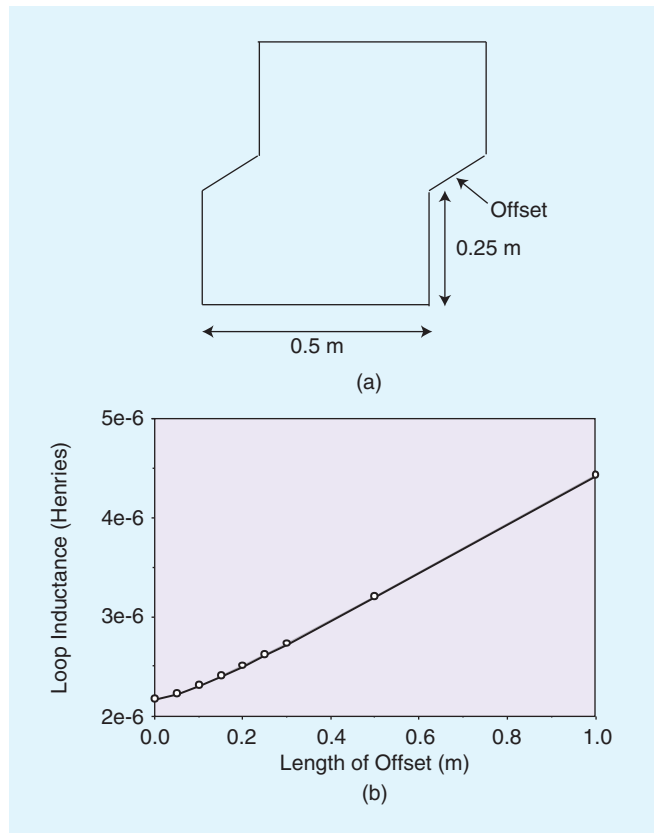

Fig. 6. The inductance of the offset loop as a function of the offset length obtained using TWTD. (a) An offset loop.
The last example shown here is for a square loop that is initially 0.5-m on a side and wire radii of 10^{-3} -m. Its inductance is determined from TWTD as the upper half of the loop is systematically offset from the lower half while remaining joined to it by two orthogonal wires. The result for this experiment is shown in Fig. 6 where the inductance varies by more than 2:1 up to the maximum offset of 1-m, essentially increasing in proportion to the offset, as might be expected from Eq. (7).